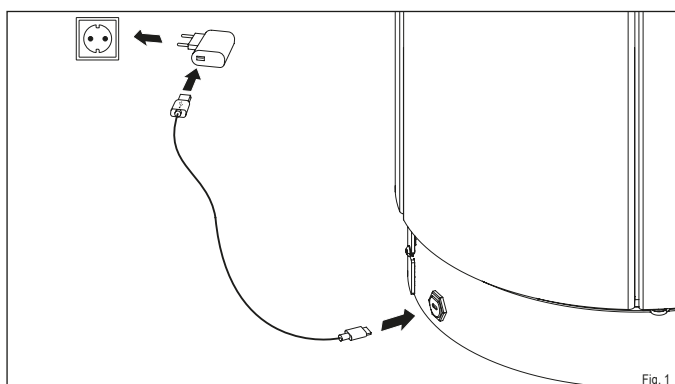

Fig. 1
- ▶ Connect the USB-C cable to the socket on the stove and the mains plug (Fig. 1).
- ▶ Connect the mains plug to the mains (Fig. 1).